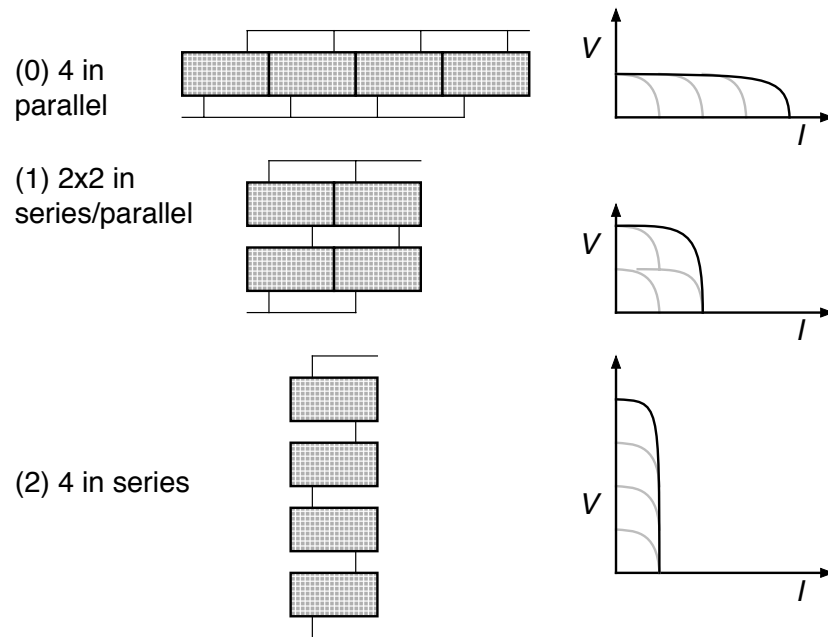

Figure 2. Four PV panel system in different modes.
In part two of this project you will consider a solar PV system comprised of 4 solar panels of the type described in Part 1. They will be installed in a close-spaced rectangular array, but will be wired with switches so it is possible to connect the four in parallel (mode 0), 2x2 in series/parallel (mode 1), or with the four in series (mode 2). As shown in Fig. 2, these changes combine the V - I characteristics of the individual modules to produce three very different overall system V - I characteristics.
- (a) Start with the skeleton code CodeP3.2.1F22. This code is similar to CodeP3.1.2F22, but here, it directs you to use data set DS3.2.1multiModePerfF22, which contains the arrays for the input data $[M, T_{air}, I_D, R_L]$ (note this includes the mode number M), and the output parameters are the load voltage and power output $[V_L, \dot{W}]$ for the 4 panel system depicted in Fig. 2. Except for the mode numbers, determine the median value for each parameter and normalize the data by dividing each parameter value by its median value. **Do not normalize the mode numbers.**